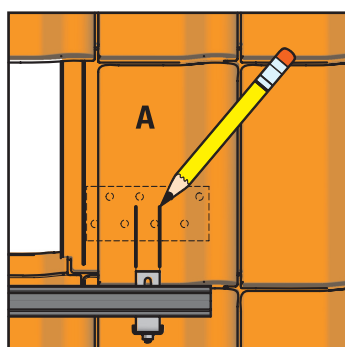

Fig. 3-12 Mark the position of the on-roof tie
14. Mark the transition points of the roof ties on the roof tiles (Fig 3-12).